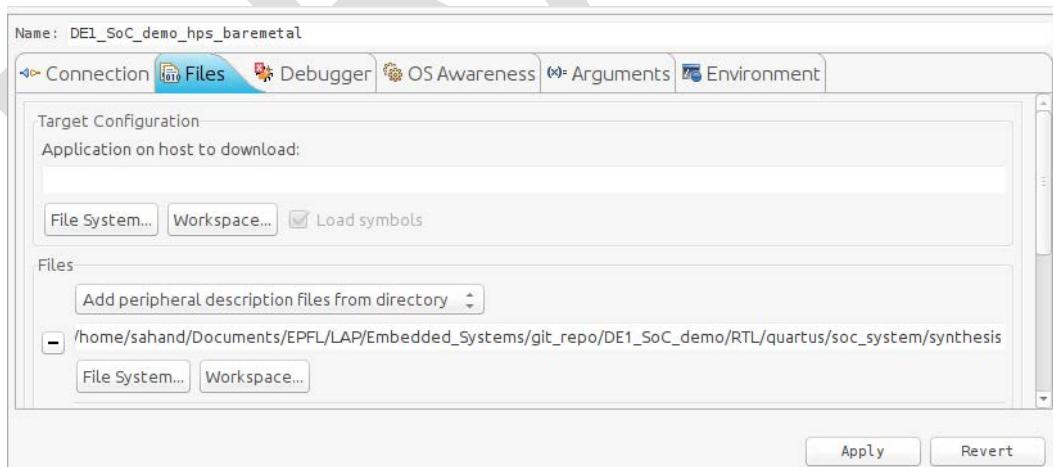

Figure 8-30. Debug Configuration "Files" Tab
- In 8.3.3.2, we configured our HPS to use some FPGA peripherals. We can instruct the debugger about this so it can show more detailed information when debugging. To do this, set the combobox to "Add peripheral description files from directory" and set it to the "DE1\_SoC\_demo/RTL/quartus/soc\_system/synthesis" directory, as shown in Figure 8-30. This directory contains a file called "soc\_system\_hps\_0\_hps.svd" which has information on all of the HPS' peripherals which are in the FPGA fabric.